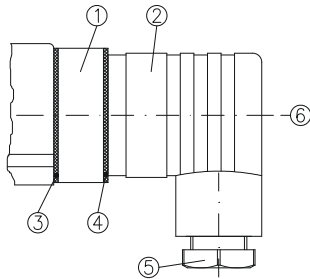

Fig. 5.2.1
- ✚ Loosen the central screw ⑥ M3x35 and disconnect the cable socket ② from the connector ① (→ Fig. 5.2.1). Pull the central screw ⑥ out of the cable socket ②.